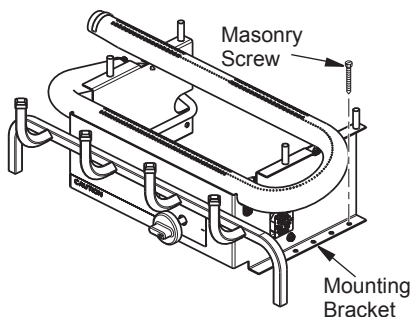

Figure 11 - Attaching Base to Fireplace Floor
7. Mark screw locations through one hole on each side of the mounting bracket (see Figure 11, page 13). If installing in a brick-bottom fireplace, mark screw locations in mortar joint of bricks.